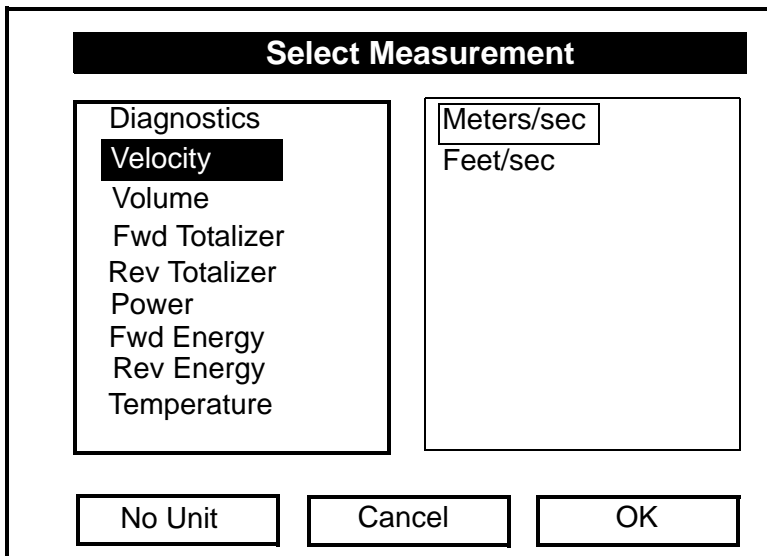

**Figure 6: The Display Menu**
2. Press [ENTER] to open the *Display Menu*. The screen appears similar to Figure 6 below.